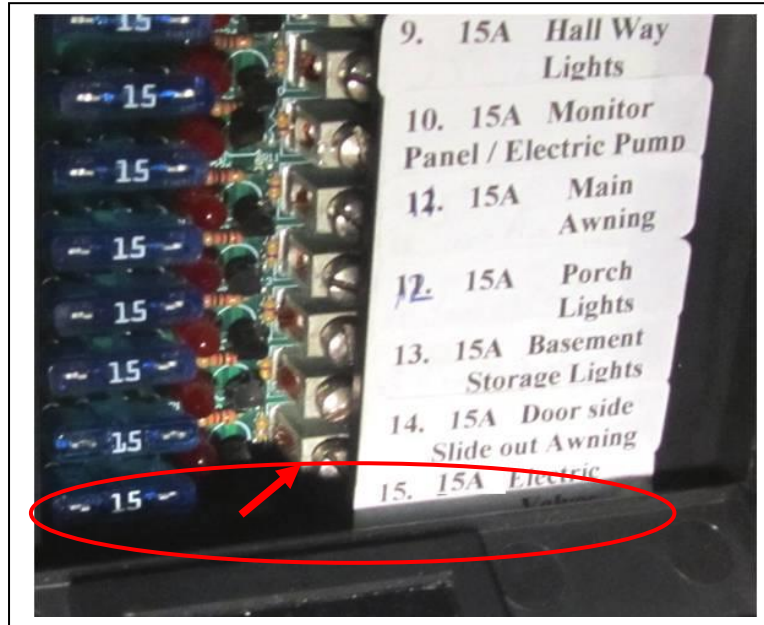
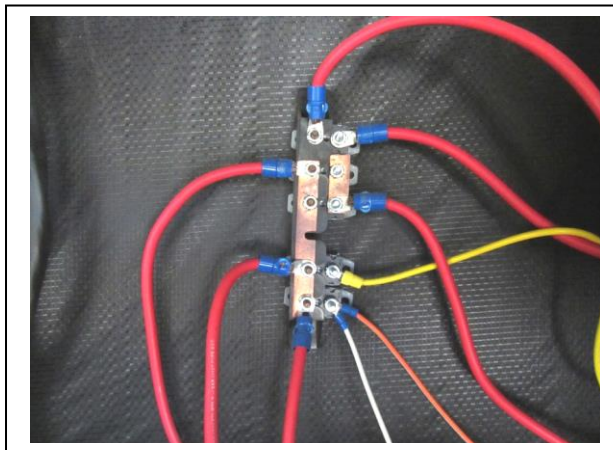
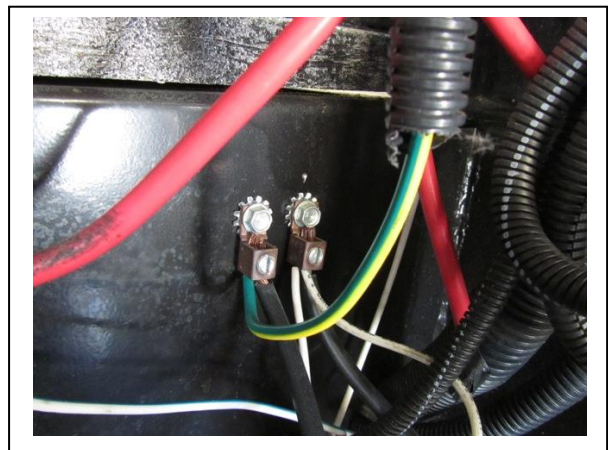

Fig. 14 – Arrow shows the spare (lowest) slot assigned to Electric valves
Fig.15. Tie to + 12V Bus Bar connected to battery +ve terminal
Fig. 16 Tie to Ground lug (-12V) connected to battery -ve terminal
- 12 V supply source:** **Fig. 14** Use a spare fused slot on the RV DC distribution panel if available to provide the +12 V supply line. Label the slot 'Electric Valves'. Ground (-ve12V) can be connected as shown below in **Fig. 16** or directly to the battery.
- If a spare slot is not available connect directly to 12 battery terminals. A distribution bus bar and grounding lugs with direct connections to the battery terminals are convenient to obtain the +12 V (**Fig. 15**) and Ground (-12V) (**Fig. 16**) connections.